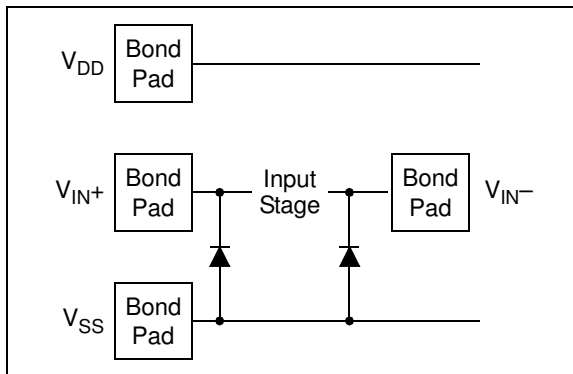

FIGURE 4-1: Simplified Analog Input ESD Structures.
The ESD protection on the inputs can be depicted as shown in Figure 4-1. This structure was chosen to protect the input transistors, and to minimize input bias current (IB). The input ESD diodes clamp the inputs when they try to go more than one diode drop below V_{SS}. They also clamp any voltages that go too far above V_{DD}; their breakdown voltage is high enough to allow normal operation, and low enough to bypass ESD events within the specified limits.